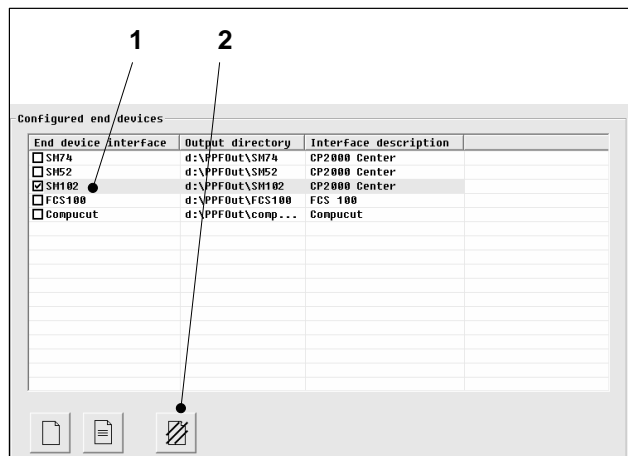

Fig. 42 Deleting a terminal interface
1. Select the terminal interface you wish to delete (Fig. 42/1) from the terminal interface list.
2. Click on the *Delete terminal interface* button (Fig. 42/2).